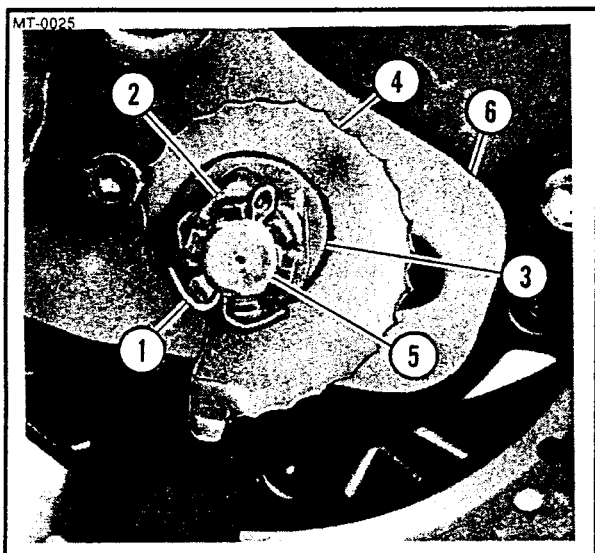

Figure 5-51. Rear Axle Cotter Pin
1. See Figure 5-51. Remove and discard cotter pin (1).
6. See Figure 5-51. Install left chain tension adjustment cam (4), flat washer (3), and axle nut (2), but do NOT tighten axle nut at this time.
8. See Figure 5-51. Tighten axle nut (2) to 101 N•m (75 ft-lb).
9. Tighten axle nut (2) just enough to align hole in axle with slots in nut so that cotter pin (1) can be installed.
10. Install a new cotter pin (1). Bend ends to lock in position.